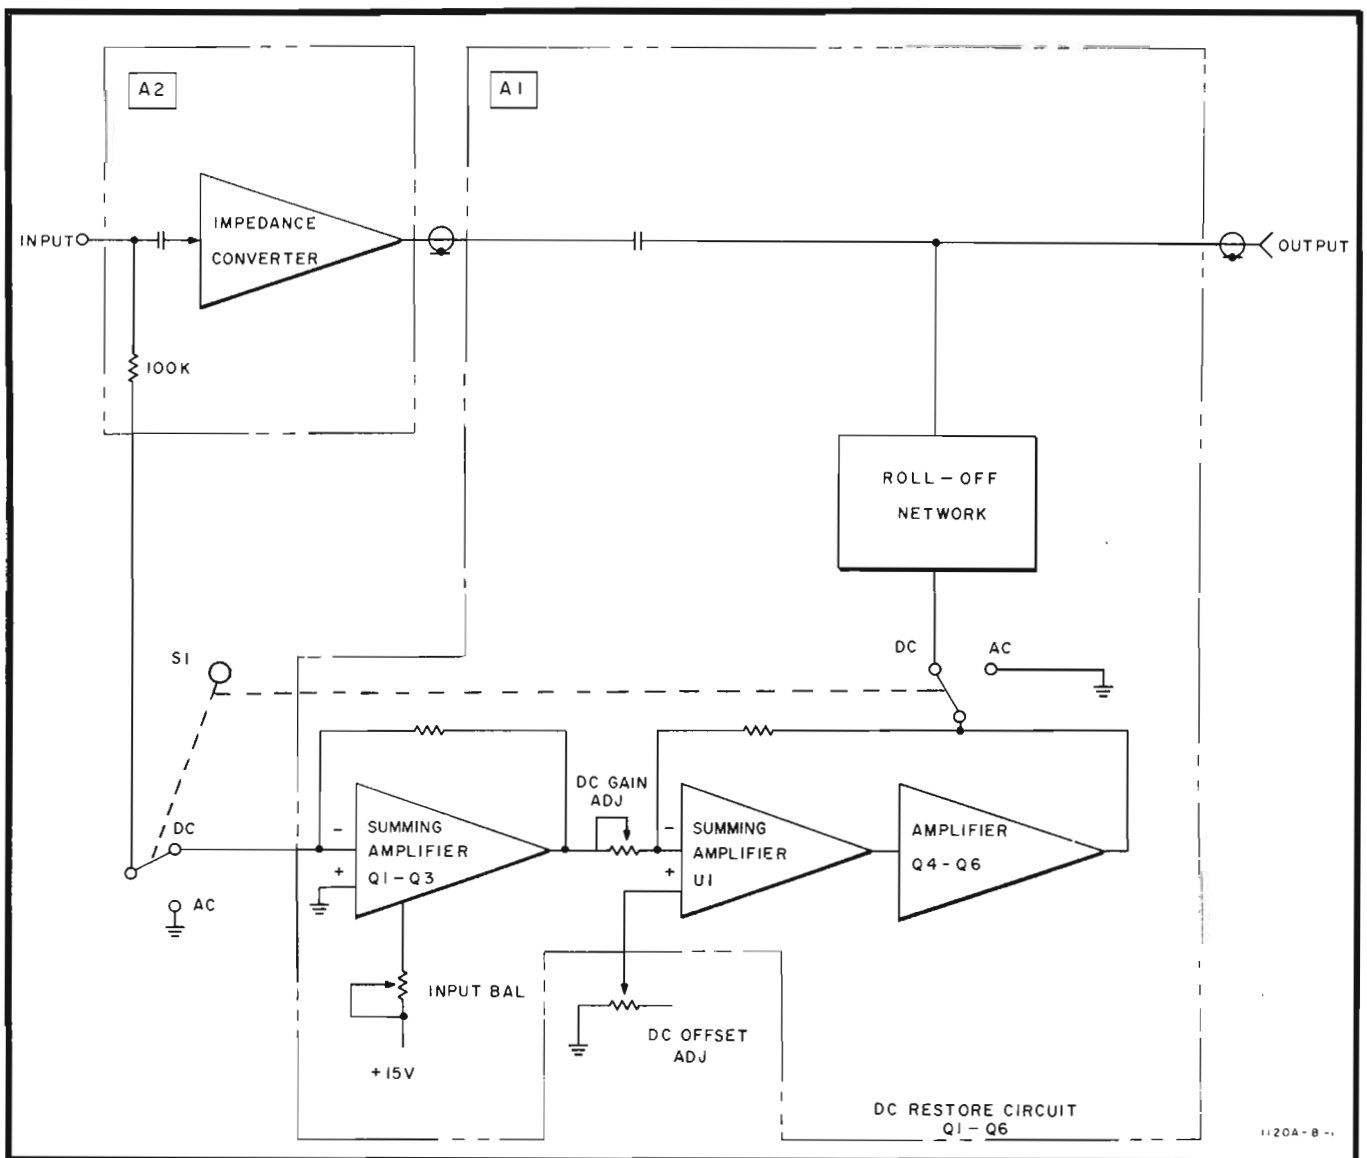

Figure 3. Model 1120A Functional Block Diagram
12. Figure 3 is a functional block diagram of the Model 1120A. The input capacitor, impedance converter, and 100-kilohm resistor are located in the probe tip microcircuit. The impedance converter is a current amplifier with unity voltage gain. Output impedance of the converter matches a 50-ohm transmission line which results in a current gain of approximately 4000 at low frequencies. When the AC mode of operation is used, a transmission line connects the output of the impedance converter to the controller assembly (A1). The controller assembly capacitively couples the signal to the output cable. Unity gain is maintained when the signal is terminated in a 50-ohm load with a low-frequency roll-off at approximately 1.5 kHz. If low frequency response is not needed, the ac mode of operation can be used for signals of less than ± 100 volts (dc plus peak ac) with a ± 0.5 volt dynamic range. When the response below 1.5 kHz becomes necessary, the DC mode of operation should be used. The ac signal path remains the same. In addition, the input signal from the probe tip is applied to a summation amplifier in the DC-restore circuit (on the controller assembly). The summation amplifier produces a unity-gain output. A second summation amplifier compares the ac-coupled output signal to the output of the first summation amplifier. The output of the second summation amplifier (with its associated circuitry) will correct the low-frequency roll-off. At higher frequencies, the roll-off network decouples the DC-restore circuit from the output.